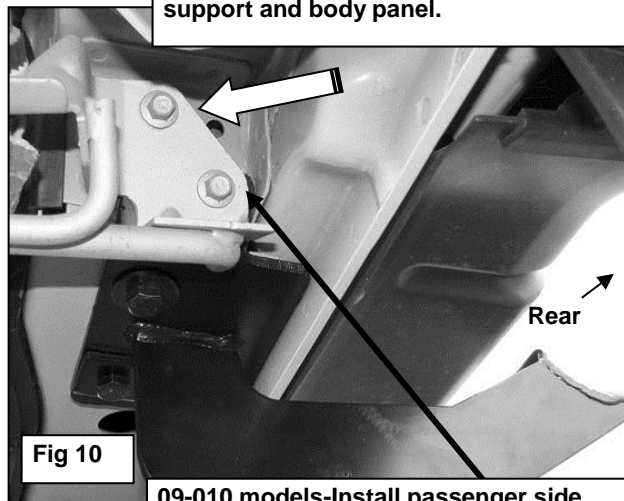

Fig 10
**2009-012 Escape and Tribute models only:** The passenger side rear Mounting Bracket installs between the factory exhaust support and the body panel. Remove the (2) 8mm hex bolts securing the bracket, move the exhaust support slightly and install the passenger side Mounting Bracket as per Step 9, **(see Figure 10)**. Reinstall the exhaust support using the factory hex bolts with (1) now inserted through the exhaust support and the Mounting Bracket. On the remaining top location, insert (2) 8mm Flat Washers between the body panel and the exhaust support to evenly space the support from the body panel. Tighten all hardware.